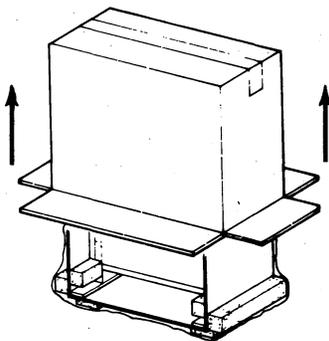

Fig. 8—Pedestal Carton Lifted Up
3.06 Turn carton and its contents upright. Lift carton up and off of pedestal (Fig. 8).